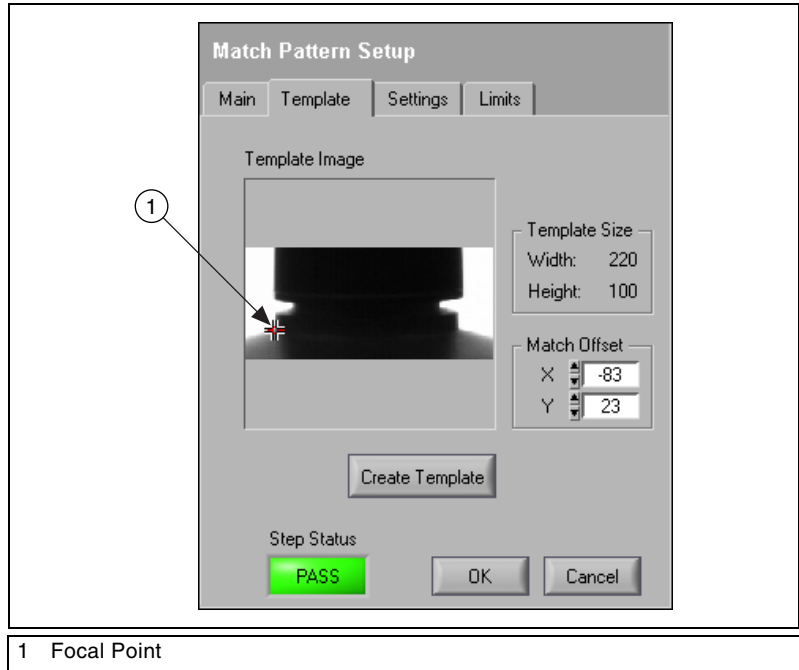

Figure 2-3. Adjusting the Focal Point of the Template
7. In the **Template** tab, drag the red crosshair mark in the template image to the left edge of the sprayer base, as shown in Figure 2-3. This changes the *focal point* of the template.